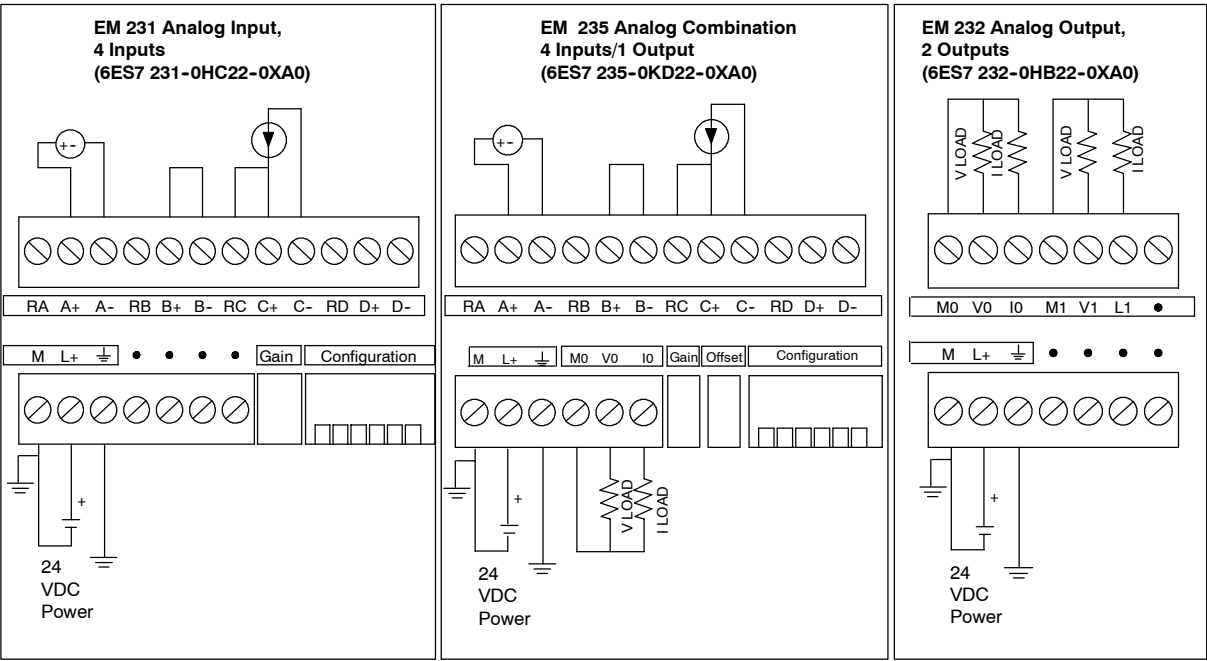

Figure A-9 Wiring Diagrams for Analog Expansion Modules
- ☐ Short the inputs for any unused channels, as shown in Figure A-9.